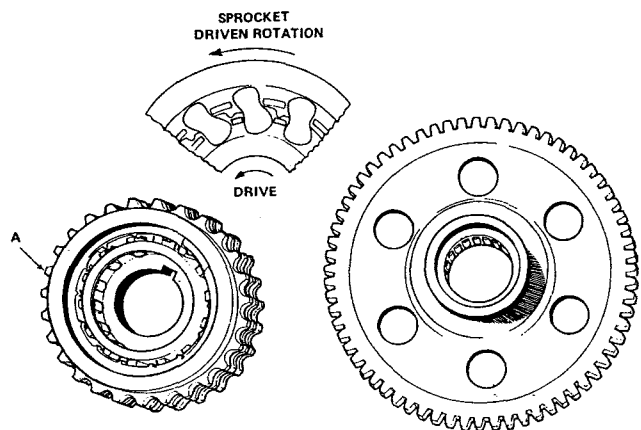

Fig. 9.7 Assembly position of the sprags
- 11 Replace the sprag clutch in the sprocket. It is imperative that it is fitted the correct way round ie; sprags leaning to the left when viewed at the top of the sprocket (see Fig. 9.7).